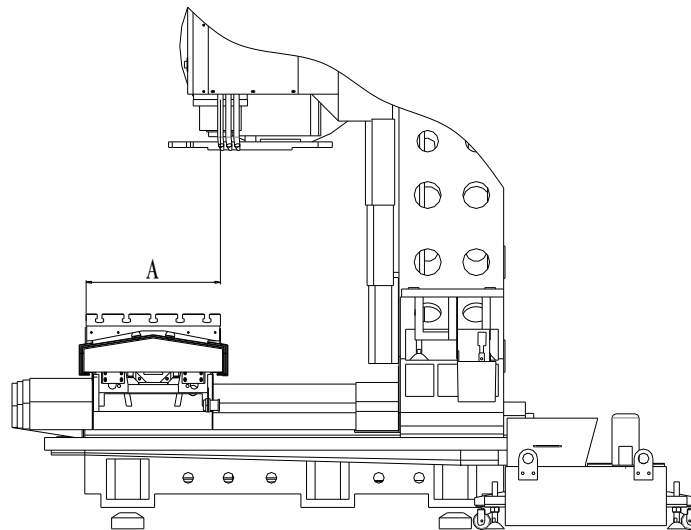

Figure 4.1.2(a) Zero point setting for Y-axis
4. As shown in Fig. 4.1.2(a), the position is the zero point of Y-axis. For detailed parameter settings, see the electrical instructions.